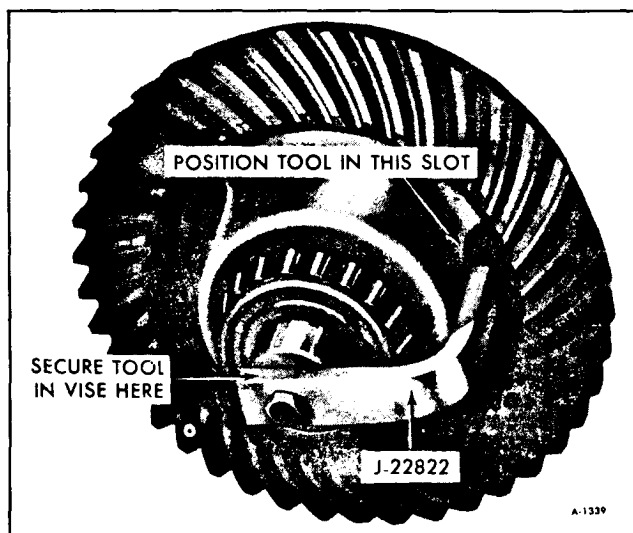

Figure 51—Installing Tool J-22822
2. Install Tool J-22822 into a vise and place case assembly over tool as shown in Figure 51. Install